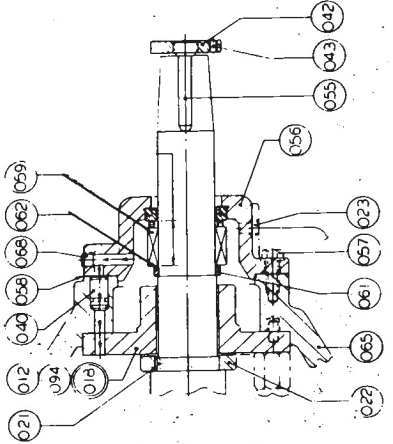
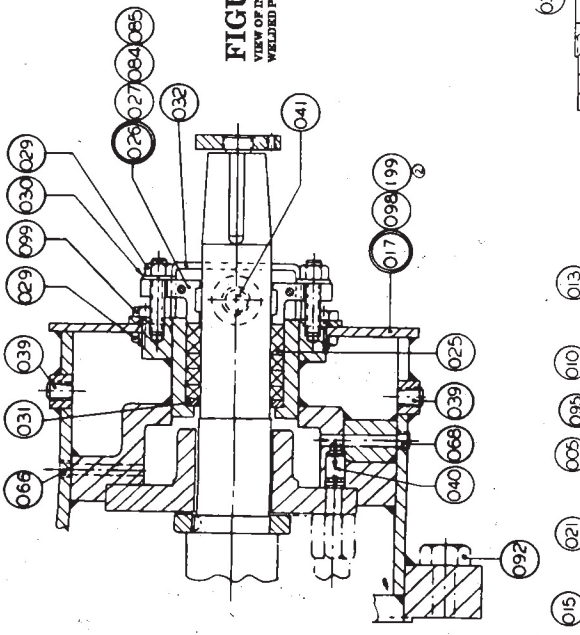

FIGURE 11
FIGURE 15.
Figures 11 and 12 (with Figures 3 or 4) and Figure 15: Install gasket (058) and seal cover (056) on inboard cover (065) using bolts (057). Torque bolts (057) to required value given in Table 2. Pull power rotor in axial direction until inboard collar (022) is in contact with inboard bearing (018). Mark power rotor shaft at point where it begins to extend through seal cover (056) to use as reference point for setting operating length of mechanical seal. Remove bolts (057), seal cover (056) and gasket (058). Slide spacer (061) and shim on power rotor (013) until spacer is in contact with step-cut shoulder of power rotor. Measure distance from power rotor scribe mark to nearest surface of spacer (061). Identify measured distance as "X" to be used in determining seal working length. Determine seal working length of mechanical seal from Table 3 and identify length as distance "S". Install O-ring (2, Figures 3 and 4) on seal seat (1, Figures 3 and 4) or grommet (2A, Figures 3 and 4) on seal seat (1A, Figures 3 and 4). Slide assembled seal seat in seal cover sub-assembly (065).
NOTE: O-ring (Figure 15) may be located on seal seat or in seal cover (056, Figure 15).
Sealol Seal (Figure 15). Slide mechanical seal (059) rotating assembly on power rotor (013) with drive collar of mechanical seal next to shim (062) and tighten setscrews.